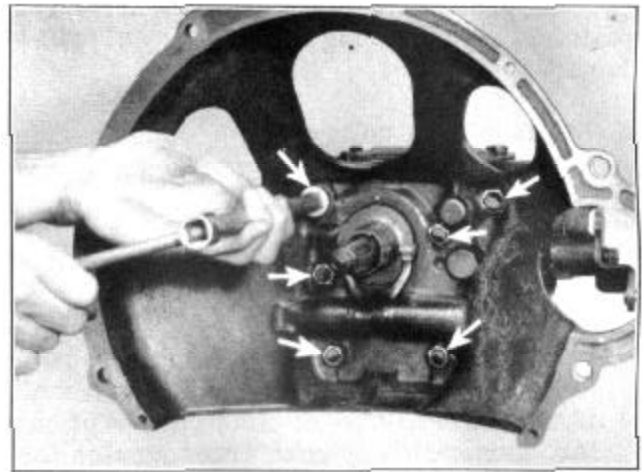

FIGURE 28
4. Start the low and reverse shift rail into transmission case. Install low and reverse shifter in position and slide shift rail into shifter, Figure 28.